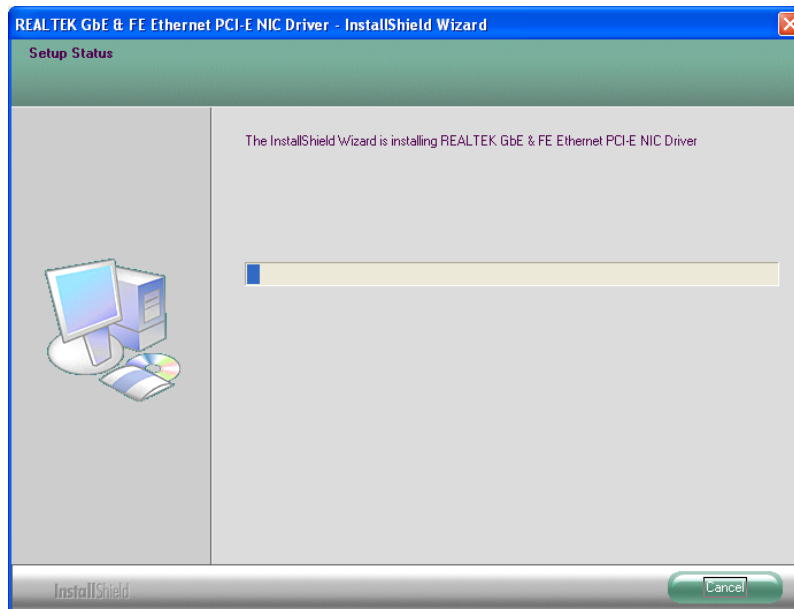

Figure 6-17: LAN Driver Installation
Step 9: The installation progress can be monitored in the progress bar shown in Figure 6-17.